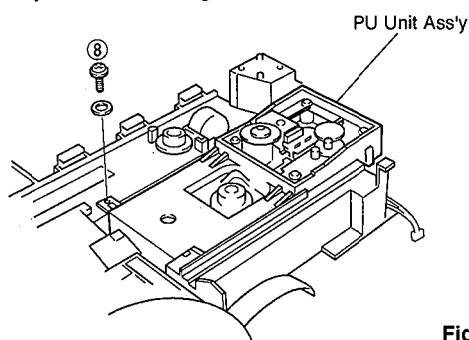

Fig. 4
- Remove 1 screw (⑧) and then remove the PU Unit Ass'y as shown Fig. 4.